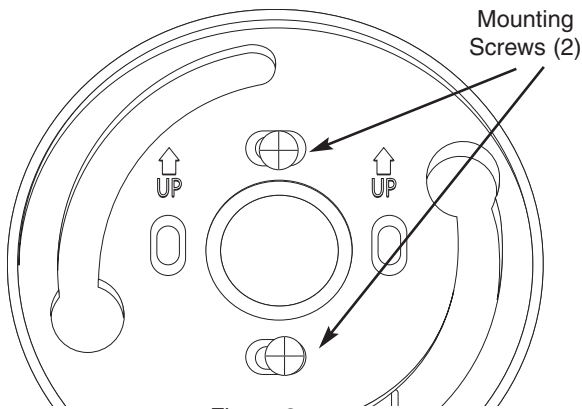
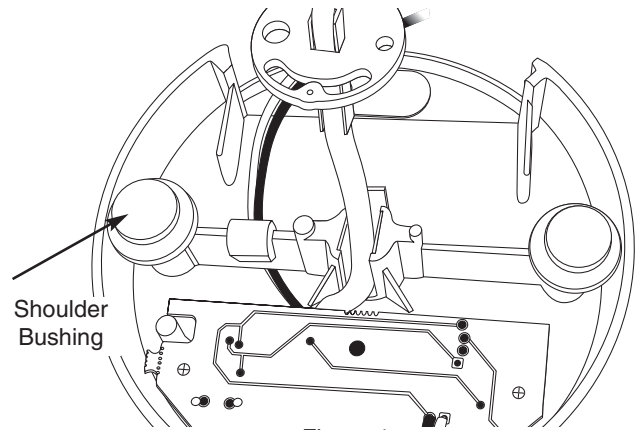
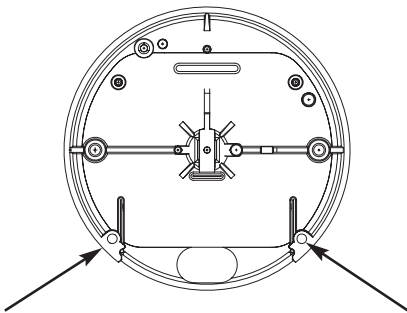
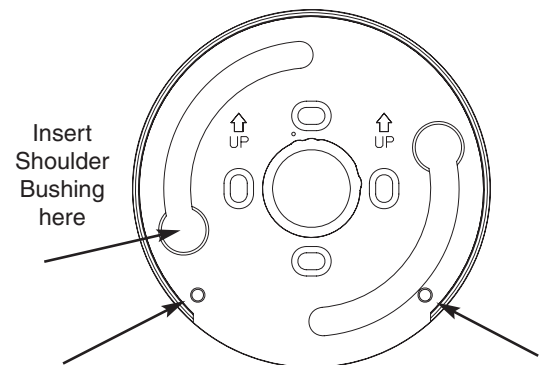

Figure 3
Figure 4
Figure 5
Figure 6
- ② The dial plate must be centered over the spindle hole. The dial plate should be mounted with the arrows in the up position.
- Tapped holes on the door should be at 12:00 and 6:00 locations, see *Figure 3*.
- ③ Install the cable protector on the entry over the cable and install over the large and small pins on the housing.
- It is important to make sure the cable will not rub on the dial plate after assembly, see *Figure 4*.
- ④ Place the spring over the small end of the pin and put one assembly in each of the holes in the back of the keypad housing, near the battery opening, see *Figure 5*.
- ⑤ Feed the cable through the hole on the door.
- ⑥ Place the shoulder bushing (*Figure 4*) in the holes of the dial plate (*Figure 6*) and rotate the keypad so that the keypad is aligned correctly.
- A click will be heard when the pin and springs snap into place in the two holes located on the dial plate, see *Figure 6*.
- ⑦ The keypad should be locked into place and should not move in either direction.